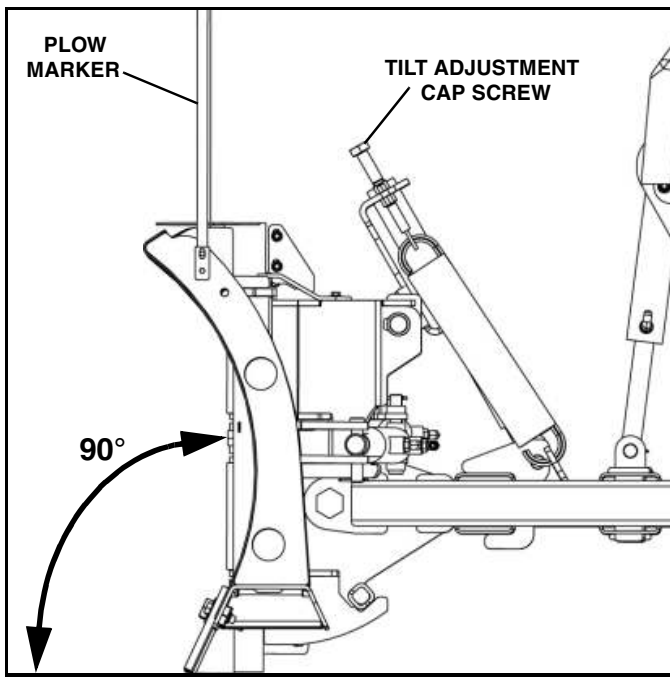

Figure 1-31
32. This plow is equipped with the MaxAdjust™ System (Patent pending). Adjust capscrew as required to position center of moldboard at a 90° angle to the ground. (See Figure 1-31).
33. Attach a plow marker to each wing as shown and secure using 5/16 x1" cap screws and locknuts. (See Figure 1-31).